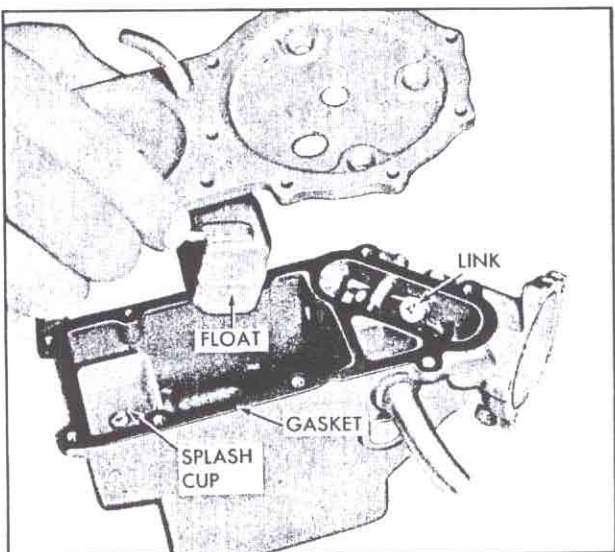

Fig. 138—Removing Fuel Meter Cover
13. Remove the fuel meter cover by unscrewing the three self-locking screws at the main control diaphragm location and the two cover attaching screws at the fuel inlet end of the assembly. Lift cover up and then slightly rearward to prevent damage to the float (fig. 138). Remove and discard cover gasket.
14. Remove nylon splash cup (fig. 138) from fuel bowl by removing attaching screw.